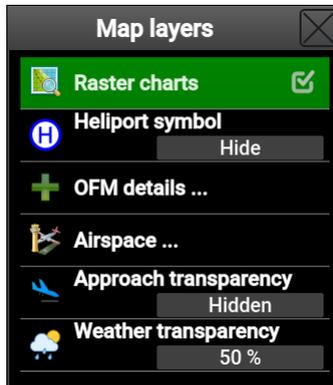

Figure 2.11: The Map layers window.
Certain map layers can be enabled or disabled and some of them can be tuned. Touching the map layers button (Figure 2.6, option (5)) opens a window shown in Figure 2.11.